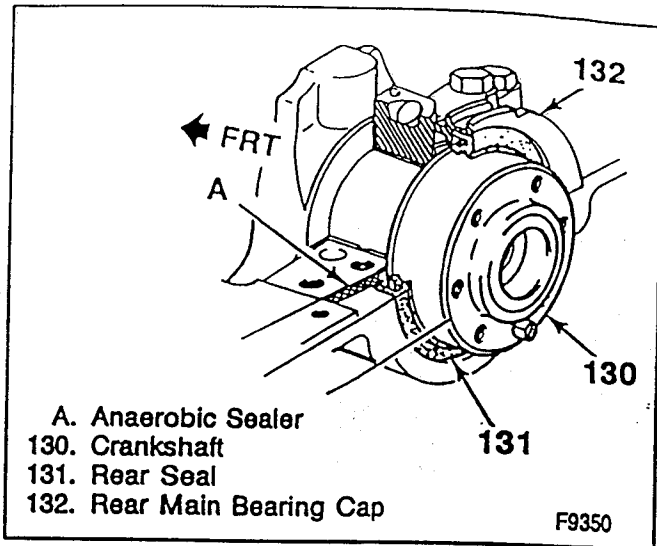

Figure 70—Applying Sealant to the Block (7.4L Engines)
• On 7.4L engines, apply anaerobic sealing compound to the rear bearing cap sealing face or to the rear bearing cap channel of the engine block, from the corner of the rear thrust bearing pocket to the edge of the channel as shown in figure 70. Do not allow any sealant on either crankshaft or rear oil seal.